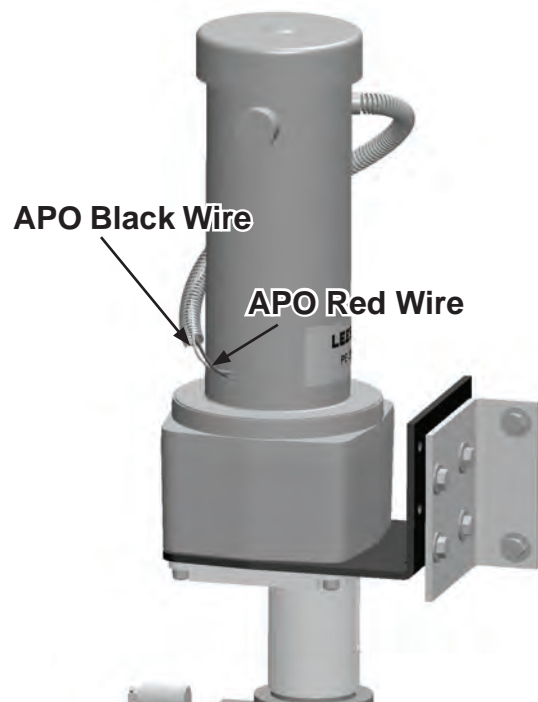

Figure 45. Connect Fuse to Red APO Wire; Route Black APO Wire to Ground Lug on Power Pack
5. Locate the red wire within the split loom (wiring harness). Connect it to the inline fuse (with the fuse). Connect the fuse to the red APO motor wire (see Figure 45).